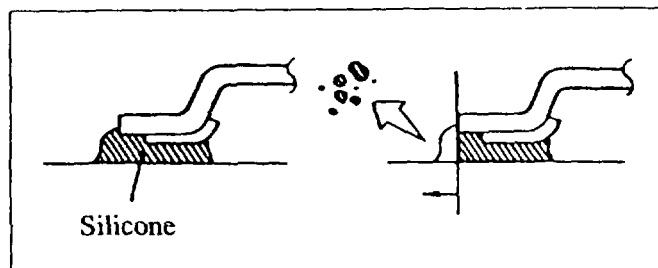

Figure 23: *Excess silicone removal area*
4. Remove all protruding silicone. **Figure 23.**